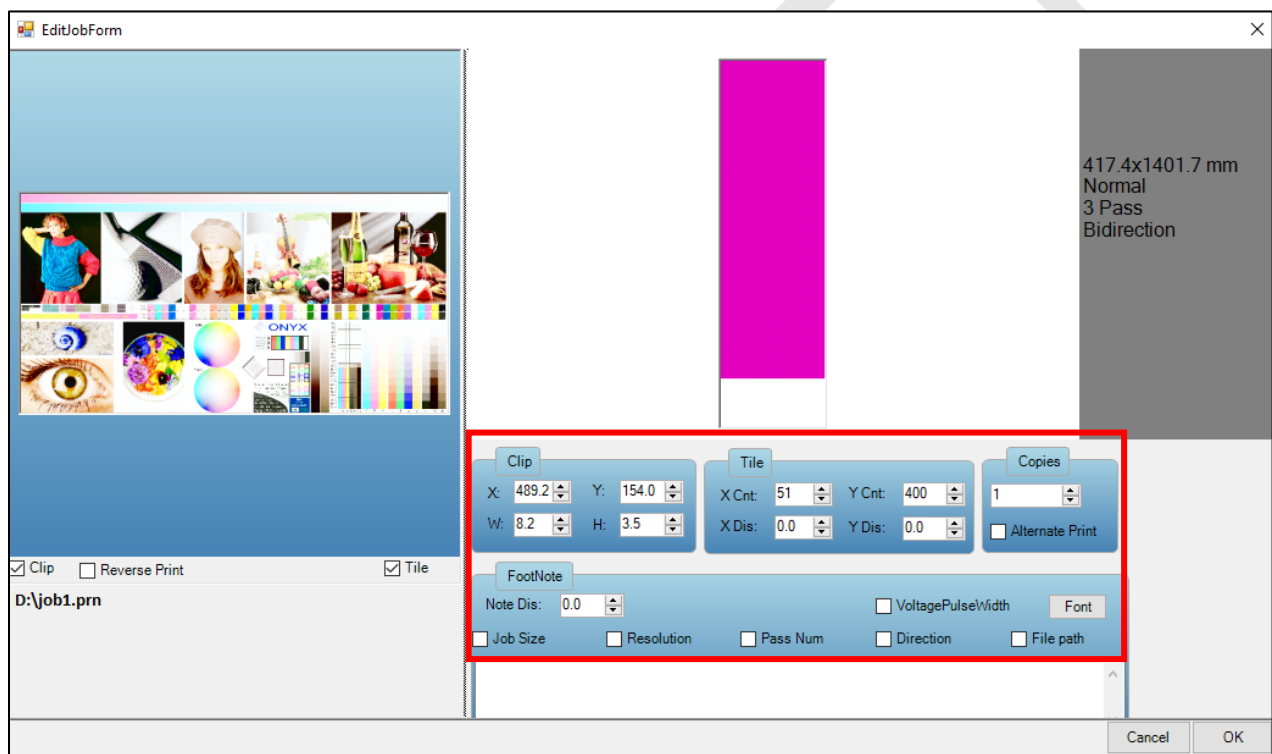

Fig 37: Displaying the Edit Job Options
**Step 5:** After making the desired changes, click on the **OK** button to apply the settings (Refer to Fig 37).